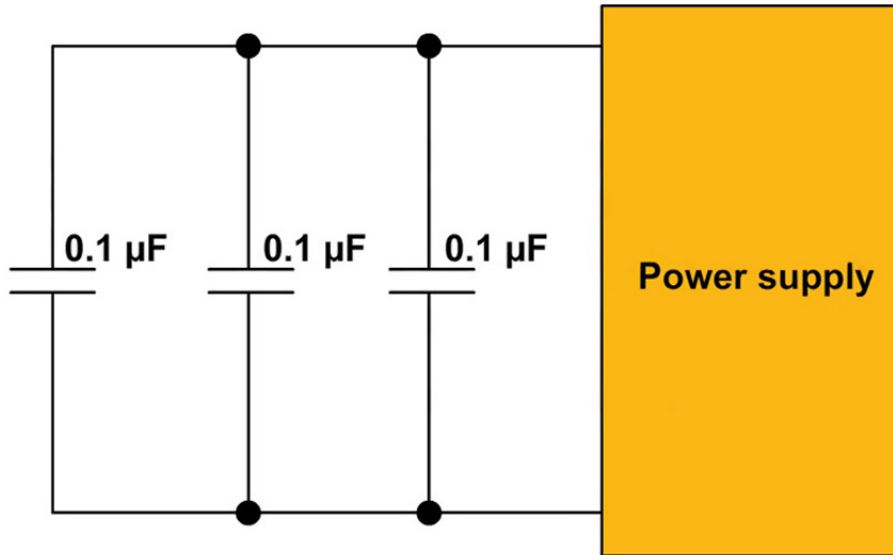

Figure 11. Placing multiple decoupling capacitors in parallel with a power supply to prevent PDN noise.
- Use multiple low-inductance decoupling capacitors of the same value (**Figure 11**). Place them as close as possible to the ICs' power pins. These capacitors filter noise and provide a stable power supply to the ICs.